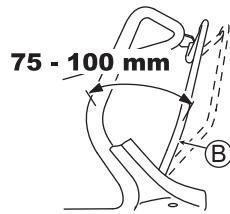

Fig. 25
Adjust so that the machine runs (the drive clutch gets engaged) when the distance between the drive clutch lever (B) and the handle is 75 - 100 mm as shown in Fig. 25.